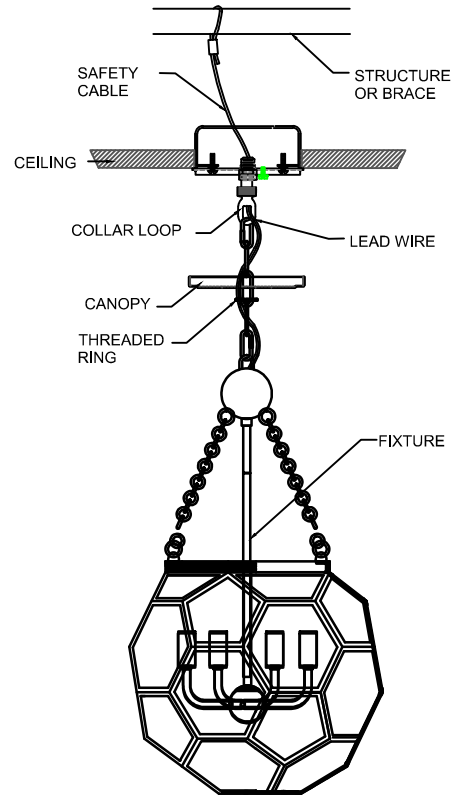

FIGURE-04
5. Attach the chain to the collar loop on the canopy using a quick link chain. Determine the desired height of the fixture and remove excess chain link. Hang the fixture on the end of the chain link using a quick link chain. Run the lead wires & safety cable to the chain link up to the canopy. Unscrew the threaded ring from the collar loop. Allow the ring an canopy to slide down the chain to the top of the fixture. (See Figure -04)
6. Attach the Safety cable to the building or structure or brace. (See Figure-04)